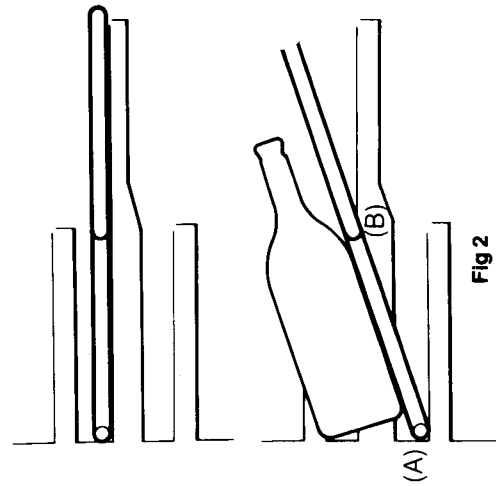

Fig 2
**Adjustable/Tilting shelves, see Fig 2**